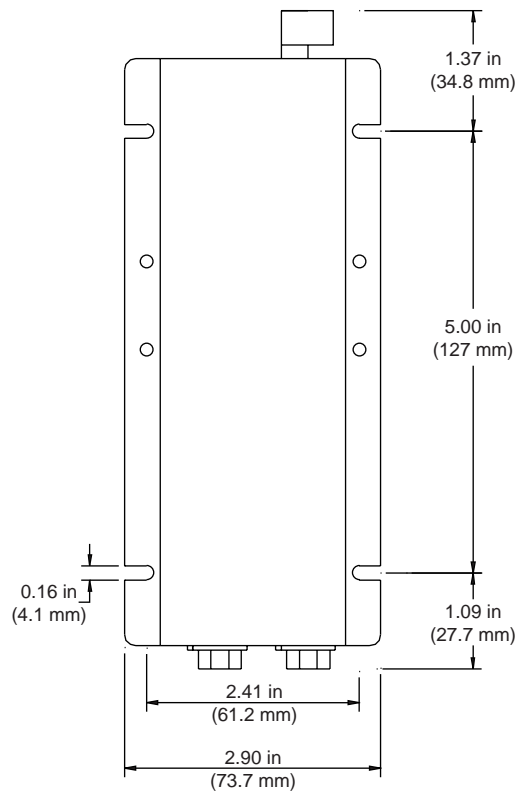

Figure 2.8 *CIM300 Template*
2. Use the dimensions shown in Figure 2.8 as a reference for clearance and dimensions